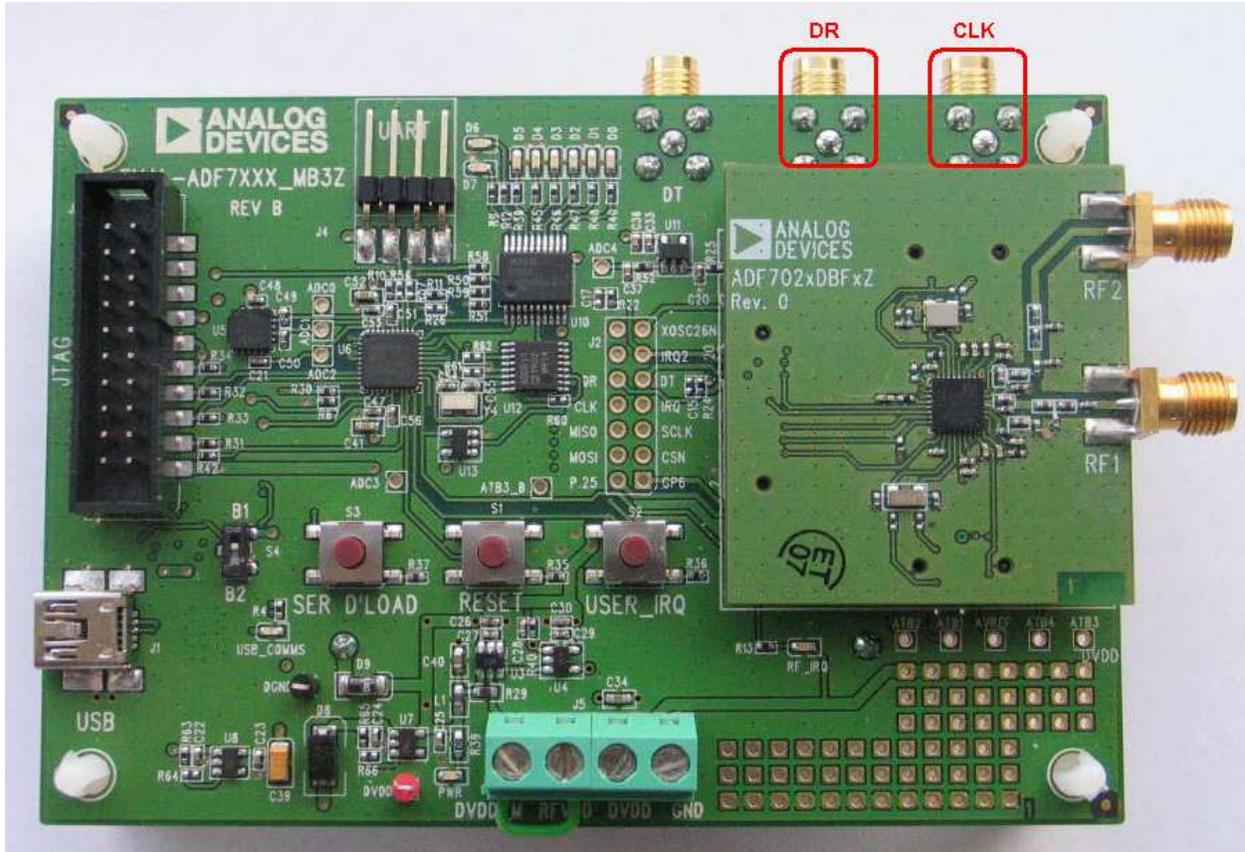

Figure 27
- While in **PHY_RX** with SPORT mode enabled, the received data demodulated by the ADF7023 will appear at the DR SMA connector on the mother board as shown in *Figure 27*
- A clock synchronized with the demodulated data will appear at the CLK SMA connector as shown in *Figure 27*.